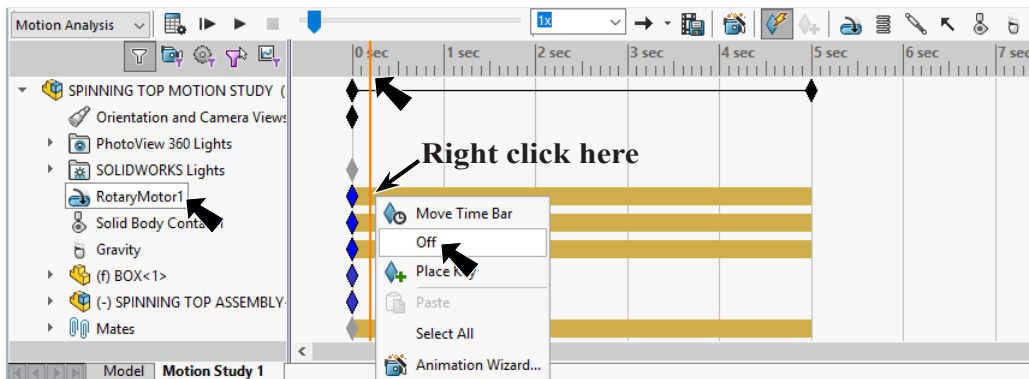
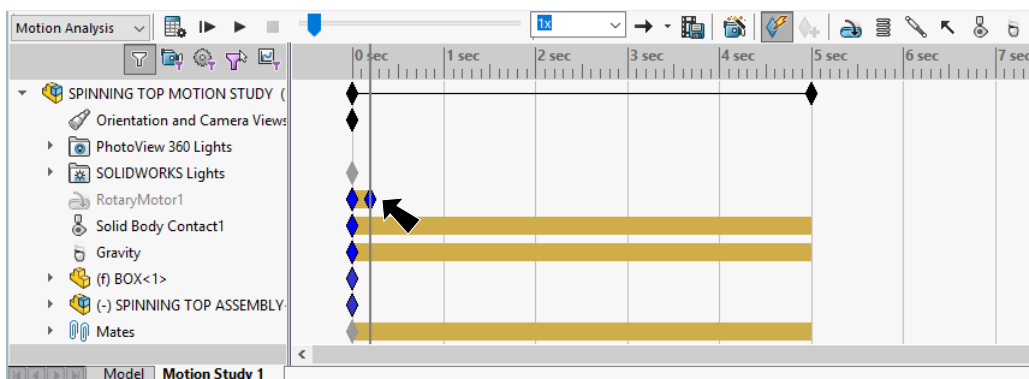

Fig. 14
Fig. 15
Step 1. **Set Time Bar to .2 seconds.** To set Time Bar, drag the Time Bar, the gray vertical line to .2 in the Timeline, **Fig. 14**.
Step 2. To Turn off Motor, **right click** the RotaryMotor1 Timeline at **T = .2** and click **Off** in menu, **Fig. 14**. This adds a key frame at **T = .2**, **Fig. 15**.